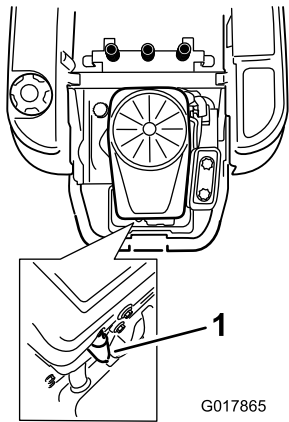

Figure 33
3. Disconnect the wire from the spark plug (Figure 33).